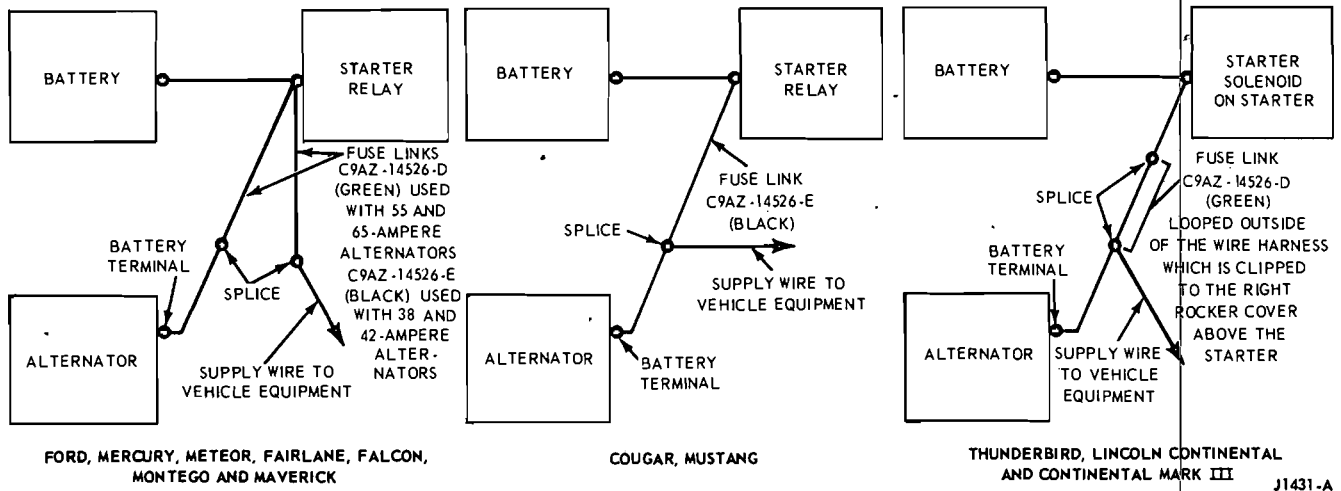

FIG. 1 Fuse Link Installation
fuse links have the words FUSE LINK printed on the insulation. Fig. 1 shows fuse link installations.
2. On the Ford, Mercury, Meteor, Torino, Montego, Maverick and Comet, there are two fuse links (Fig. 1). Use the same procedure as in step 1 to test the fuse link that protects the vehicle equipment.
A battery can also be tested by determining its ability to deliver current. This may be determined by conducting a Battery Capacity Test. Fig. 1 shows the battery capacity test in outline form.
6. If the voltmeter reading is 9.6 volts or more, the battery has good output capacity and will readily accept a charge, if required. Check the specific gravity. If the specific gravity reading is 1.230 or below, add water if necessary and charge the battery until it is fully charged (Fig. 1). **Always disconnect the battery ground cable**